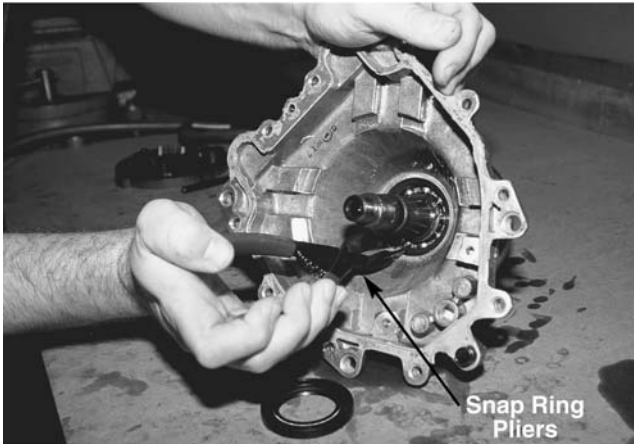

Figure 10-59.
19. Install the snap ring on the axle shaft to retain the bearing on the shaft, making sure that the snap ring is in the groove on the axle. See Figure 10-59.